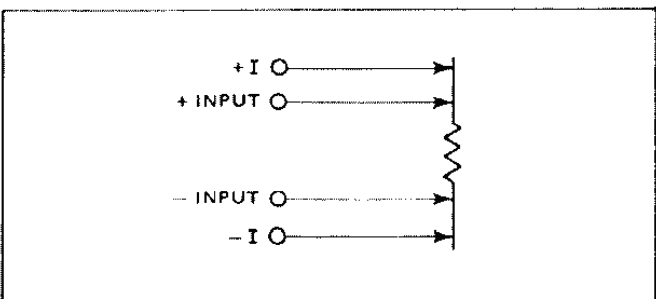

Figure 5.7 - 4-Wire Connections
- b. Connect input with 4-wire configuration (figure 5.7) and complete the adjustments of the low ranges.